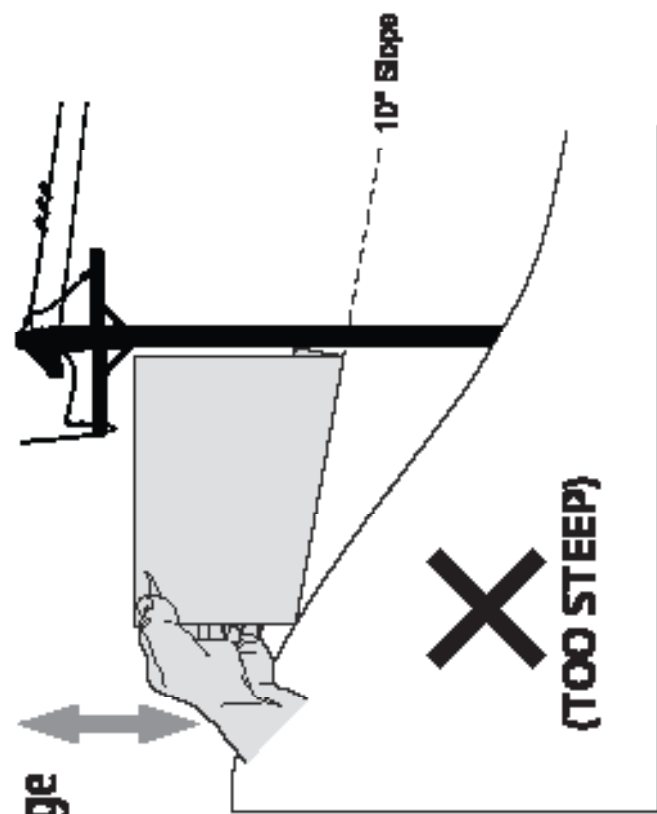

Figure 1
3. Align the left side of the slope gauge with the object (See Figure 1 and Figure 2).
4. Adjust gauge up or down until the left corner touches the slope (See Figure 1 and Figure 2).